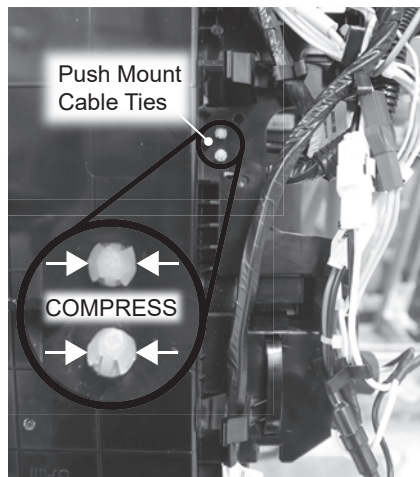

Figure 25 - Push mount cable tie removal.
**24** Locate the two (2) push mount cable ties on the back of the control board. See Figure 25. Use a pair of pliers to compress tabs and push them out of the keeper holes.
**25** Disconnect the push mount cable tie as shown in Figure 25.